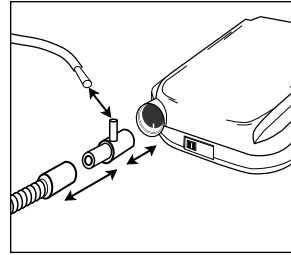

Figure 7
3. Oxygen may be injected into the air supply by connecting one end of standard oxygen tubing to the oxygen adapter and the other end to the oxygen source **Figure 7**.